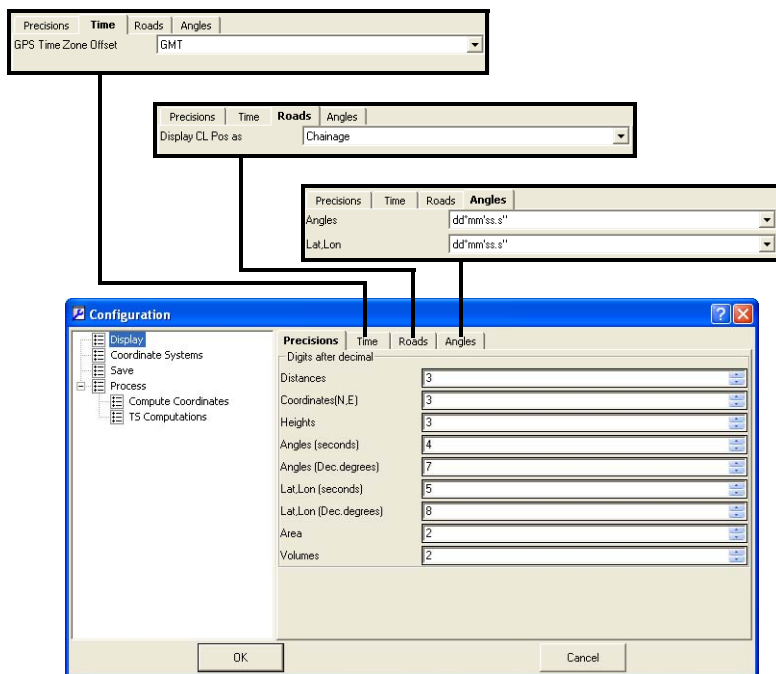

Figure 3-9. Select Display Parameters
2. In the Display pane, select the following parameters for displaying information (Figure 3-9 on page 3-12). Click Ok to save and exit.